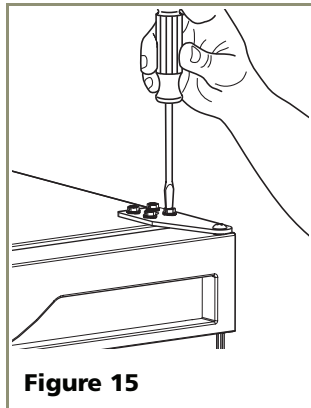

Figure 15
1. Loosen (do not remove) top and bottom hinge screws. See **Figure 15**.